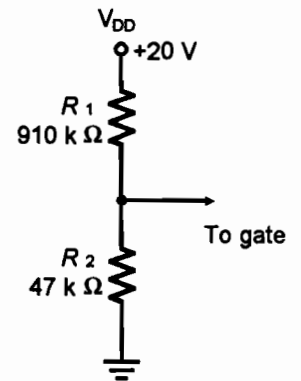

Figure 33.3
6. Turn circuit power off. Add the voltage divider of Figure 33.3 to the gate of your circuit.